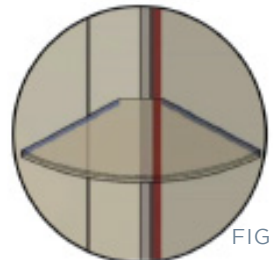

FIG.21
- After 24-48 hours remove stabiliser blocks (FIG 21).